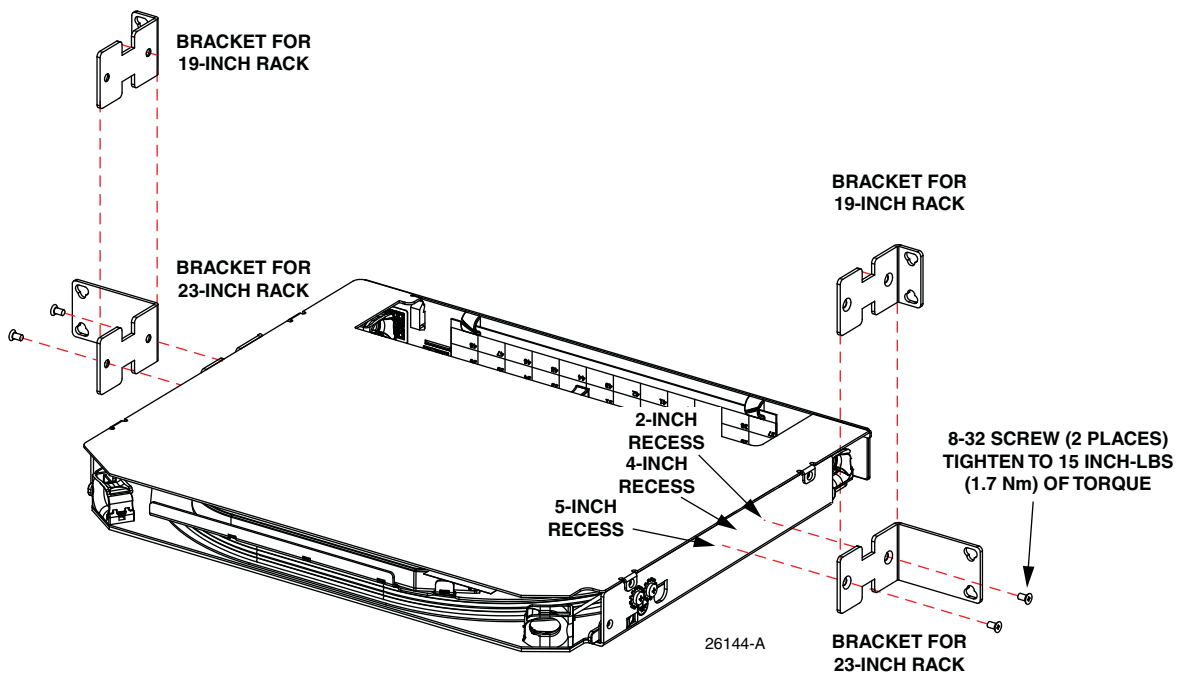

Figure 9. Mounting Bracket Installation
The Rapid Fiber Panel can be mounted in either a 19-inch or 23-inch rack or cabinet. Use the following procedure to mount the panel, referring to Figure 9.
1. Determine if the rack or cabinet width is 19 or 23 inches. Also, determine recess required (2, 4, or 5 inches) for mounting the panel. Refer to Figure 9.
2. If the panel is being installed in a 23-inch rack or cabinet in other than the 5-inch recess position, remove the 23-inch mounting brackets and re-install them at the required (2- or 4- inch) recess position, as shown in Figure 9.
3. If the panel is installed in a 19-inch rack or cabinet, remove the 23-inch mounting brackets and install 19-inch brackets at the required recess position, as shown in Figure 9.
3. If the panel shell is being installed in a 23-inch rack or cabinet in other than the 5-inch recess position, remove the 23-inch mounting brackets and re-install them at the required (2- or 4- inch) recess position, as shown in Figure 9.
4. If the panel shell is being installed in a 19-inch rack or cabinet, remove the 23-inch mounting brackets and install 23-inch brackets at the required recess (2, 4, or 5 inches) position, as shown in Figure 9.